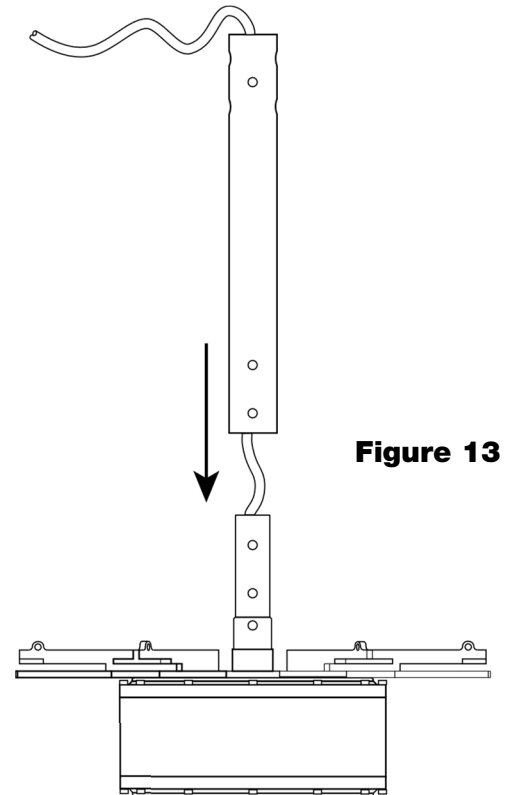

Figure 13
2. Feed the Control Cable through the Down Rod then carefully slide the Down Rod over the Fan's Center Shaft. Refer to **figure 13**.